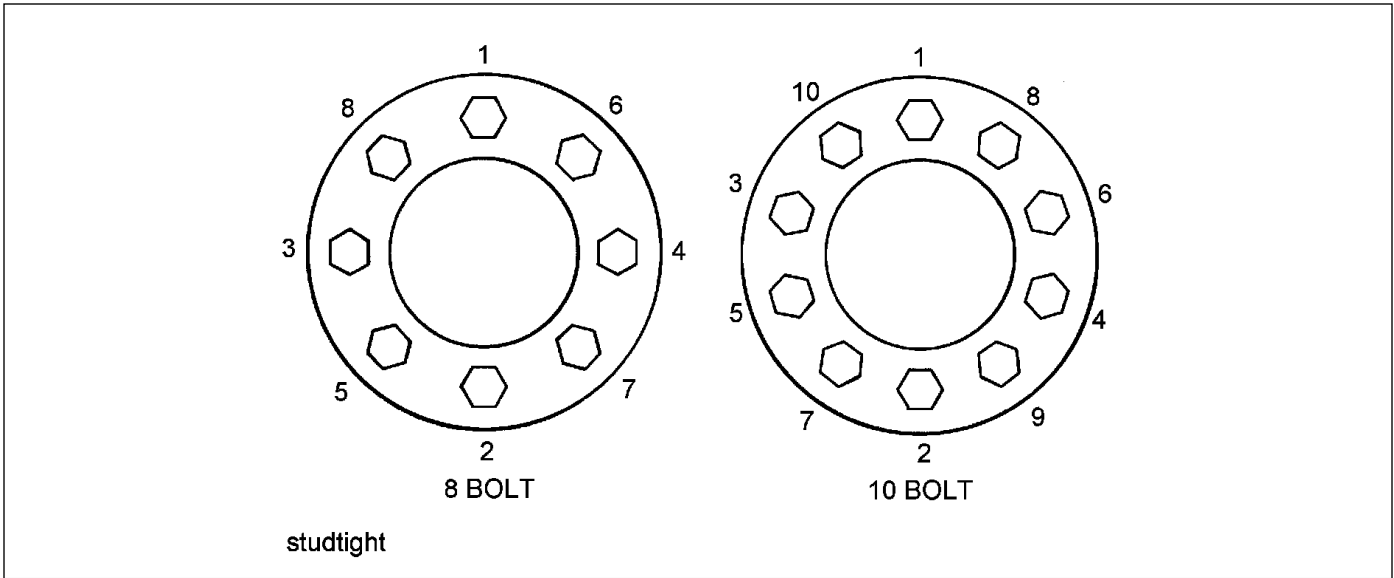

Figure 4-20: Stud Tightening Sequence
3. Install the inner capnuts on the studs and tighten to fifty foot-pounds using the sequence illustrated in Figure 4-20. Make certain that the left-handed threads are installed on the driver side of the vehicle and the right-handed threads are installed on the curbside of the vehicle.
4. Tighten the inner capnuts to full torque of 450 to 500 ft-lbs using the sequence shown in Figure 4-20.
6. Install the outer capnuts and tighten to 50 foot-pounds using the sequence in Figure 4-20. Then tighten to full torque of 450 to 500 ft-lbs using the same sequence.